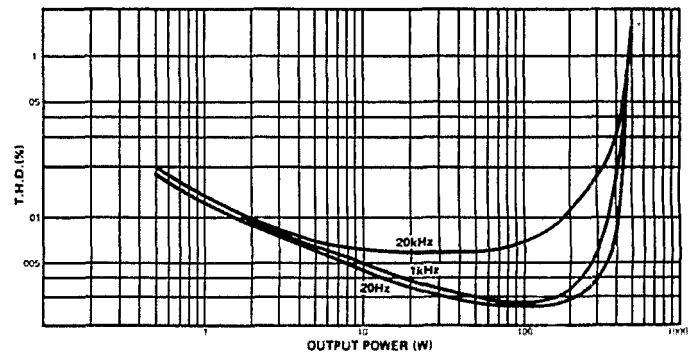

Fig. 17 - T.H.D. vs Power Output (Mono Mode) at 16Ω Load Impedance
**Total Harmonic Distortion:** (Refer to Figures 17 and 18.)